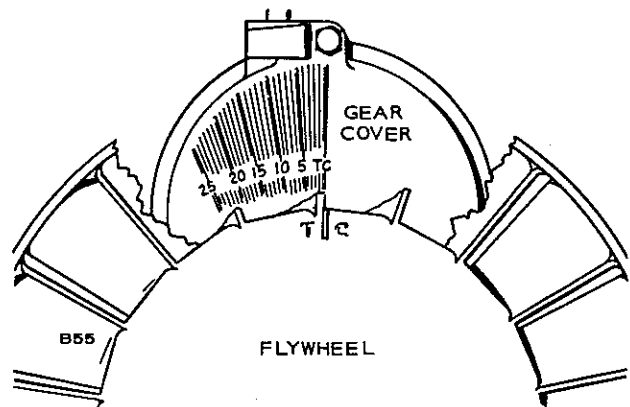

FIGURE 10-40. TIMING (PRESSURE COOLED)
4. Rotate crankshaft clockwise by hand until TC mark on flywheel and TC mark (or correct degree mark) on gear cover align, Figure 10-40.
The pressure cooled engine timing mark is observed by looking through the flywheel fan to the timing marks on the gear cover, Figure 10-40. Engine timing is set at 22° BTC (before top center) and should be maintained for best engine performance. Always check timing after replacing ignition points or if poor engine performance is noticed. Proceed as follows: